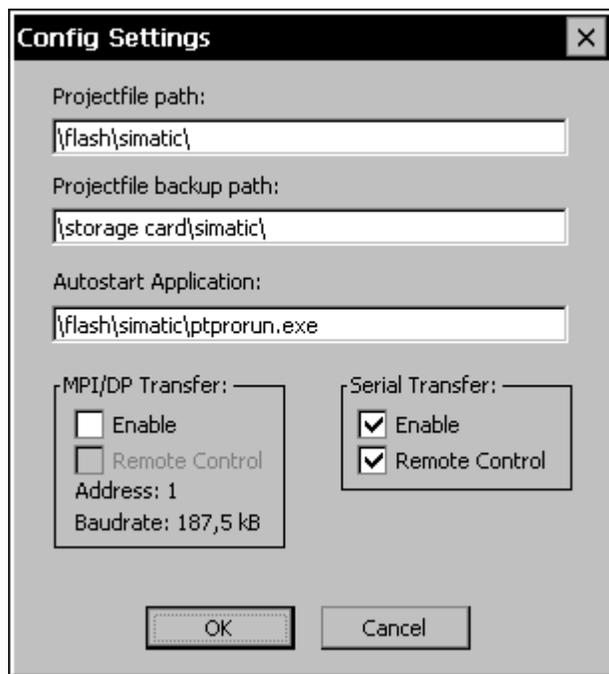

Figure 3-2 MP270 Configuration menu
2	Connect the MP270 to the configuration computer according to the settings in the Config Settings menu (Figure 3-2, Page 3-8) via the IF2 (serial) or IF1B (MPI/PROFIBUS-DP) interface using a standard cable.
3	If necessary, check the interface settings in the Config Settings menu (Figure 3-2, Page 3-8) and adapt them as required.
3	If necessary, check the interface settings in the Configuration menu (Figure 3-2, Page 3-8) and adapt them as required.
The MP270 can be switched to download mode automatically when in normal operation as soon as downloading is started on the connected configuration computer. This option is particularly recommended for the test phase involving a new configuration project because the data is transferred without having to intervene on the MP270. A condition for this is that the following settings have been defined in the Config Settings menu (Figure 3-2, Page 3-8):
Following the start-up phase, switch the automatic download option off to prevent inadvertently switching the MP270 to Download mode in a system which is running. Deactivate the options *MPI/DP Transfer Remote Control* and *Serial Transfer Remote Control* in the MP270 Configuration (Figure 3-2, Page 3-8).
- The memory card is defined in the Config Settings menu (Fig. 3-2, Page 3-8) under the item *Projectfile path*.
The options for download mode can only be set during the MP270 start-up phase. During the start-up phase the Start menu depicted in Figure 3-1 appears. Press the *Config* button to call in the Config Settings menu depicted in Figure 3-2.